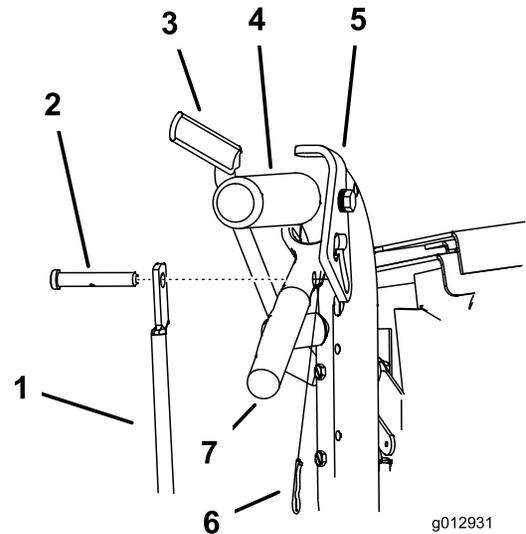

Figure 18
1. Remove the hairpin cotter pins and clevis pins from the drive levers and neutral locks (Figure 18).
5. Adjust the control rod length by rotating the control rod in the rod fitting (Figure 18).
6. Install a hairpin cotter between the drive levers and the neutral locks and into the clevis pins (Figure 18).